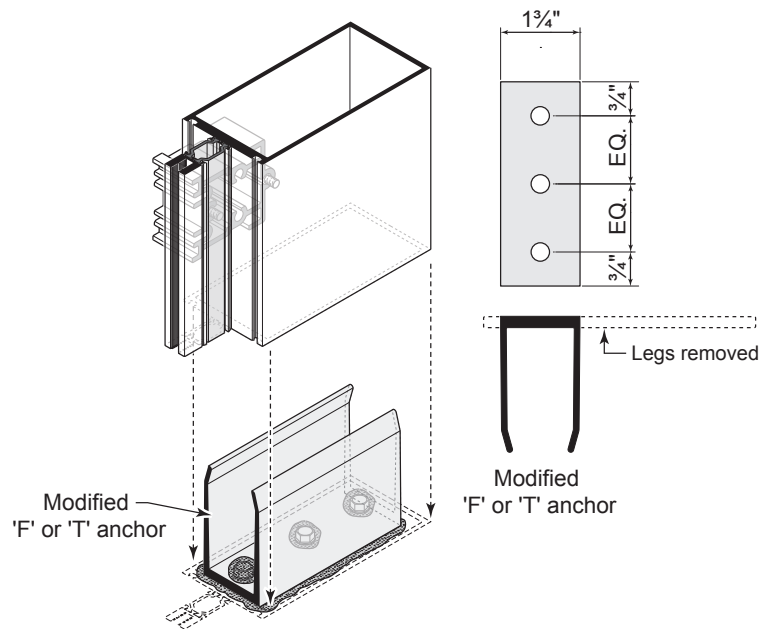

Fig. 56.1
- B. Curtain wall verticals and door subframes run to floor. Bed verticals in sealant and anchor to building per approved shop drawings. See **Fig. 56.1** for possible anchoring method. **Always refer to approved shop drawings for specific requirements.**